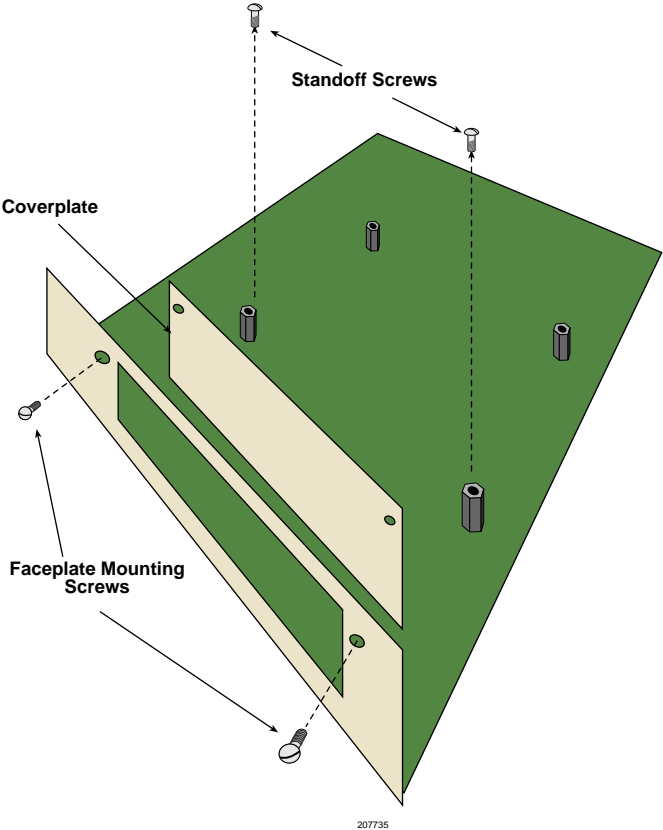

Figure 2-3 Removing the HSIM Coverplate
5. Remove and save the two faceplate mounting screws securing the HSIM coverplate and remove the coverplate. See Figure 2-3.
6. Remove and save the two standoff screws. See Figure 2-3.
5. Remove and save the two faceplate mounting screws securing the HSIM coverplate and remove the coverplate. See **Figure 2-3**.
6. Remove and save the two standoff screws. See **Figure 2-3**.